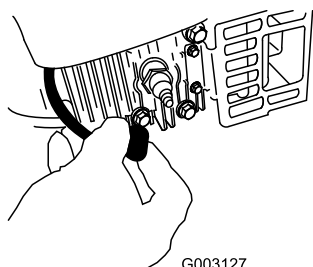

Figure 31
2. Disconnect the spark-plug wire from the spark plug (Figure 31) before performing any maintenance procedure.